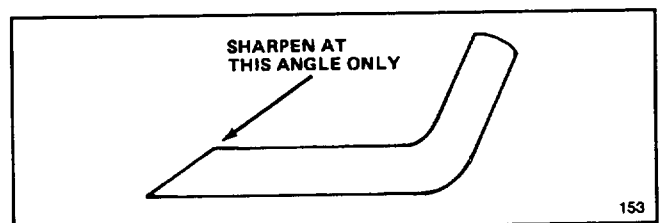

Figure 23
6. **SHARPENING BLADE**—Using a file, sharpen top side of blade and maintain original cutting angle (Fig. 23). The blade remains balanced if the same amount of material is removed from both cutting edges.